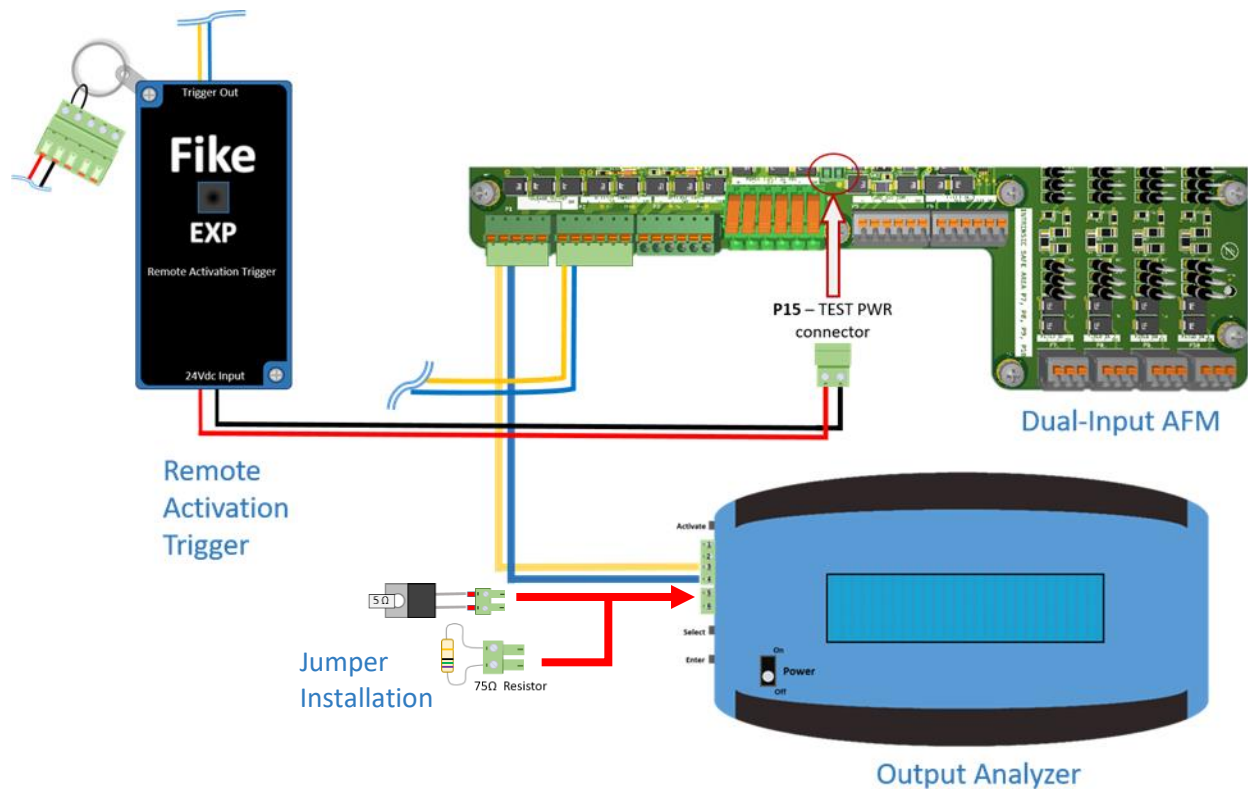

Figure 12 - EXP AFM Firing Circuit Activation Current Test (Dual Input shown)
4. Plug the Remote Trigger 24VDC connector into the "TEST PWR" plug on the AFM, as shown in Figure 12.
8. Install 75Ω jumper into Analyzer (Figure 12). With the 75Ω jumper installed, the supervisory current will be displayed. Record current if desired, then remove the 75Ω jumper.